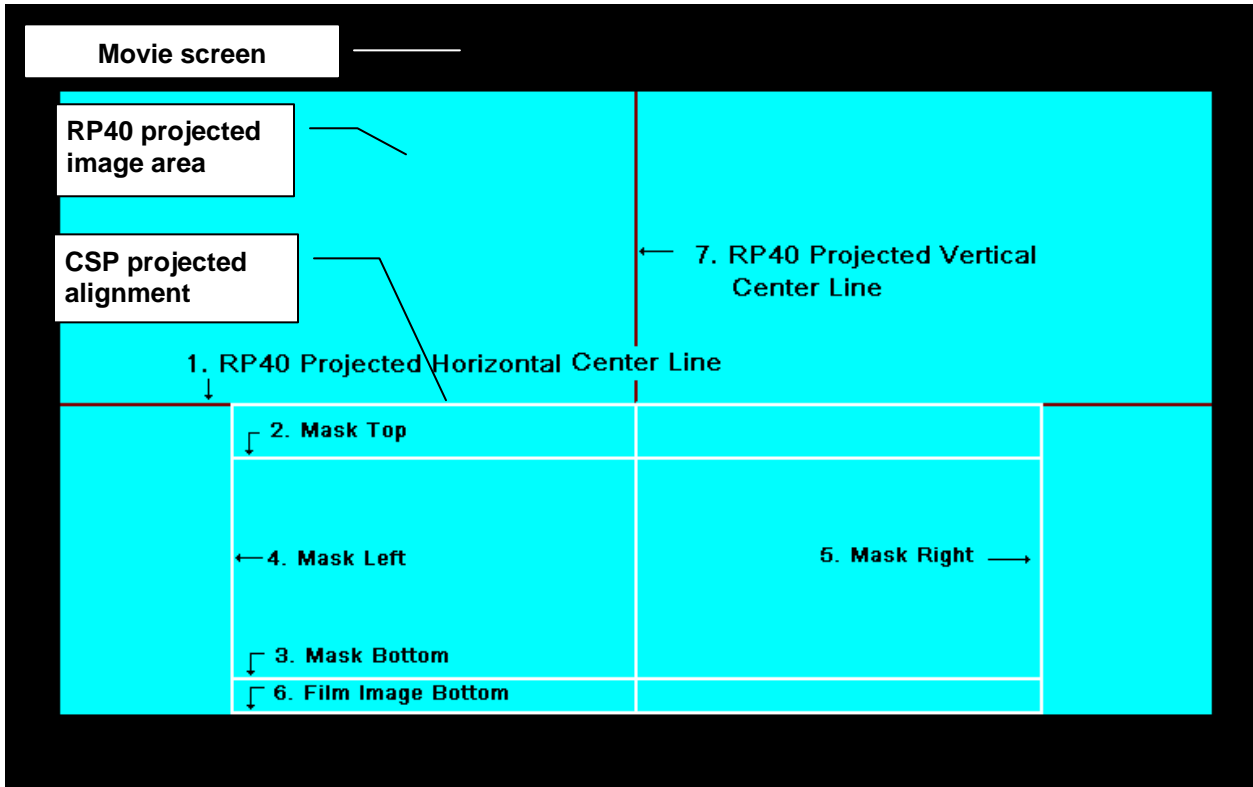

Figure 14. Align the projected pattern (white) with Line 1, Line 6, and Line 7
DTS recommends you use the test film SMPTE RP40 (flat), which is represented by the gray (or light blue) background in Figure 14, next page.
- 7. Adjust the zoom lens on the CSP to project the largest possible image. Focus this image. Then adjust the zoom lens to make the image smaller, if needed, to fit inside the lower half of the RP40 projected image area (between line 1 and line 6 in Figure 14, below).
- 8. Manually adjust the position of the CSP so that the upper horizontal line (of the alignment pattern) aligns with the horizontal centerline of the screen (line 1 in Figure 14).
11. From the CSP Setup menu, select **Test Patterns**→ **Mask Area**. The CSP will project the subtitles area (only), which corresponds to the area within lines 2, 3, 4, and 5 in Figure 14.